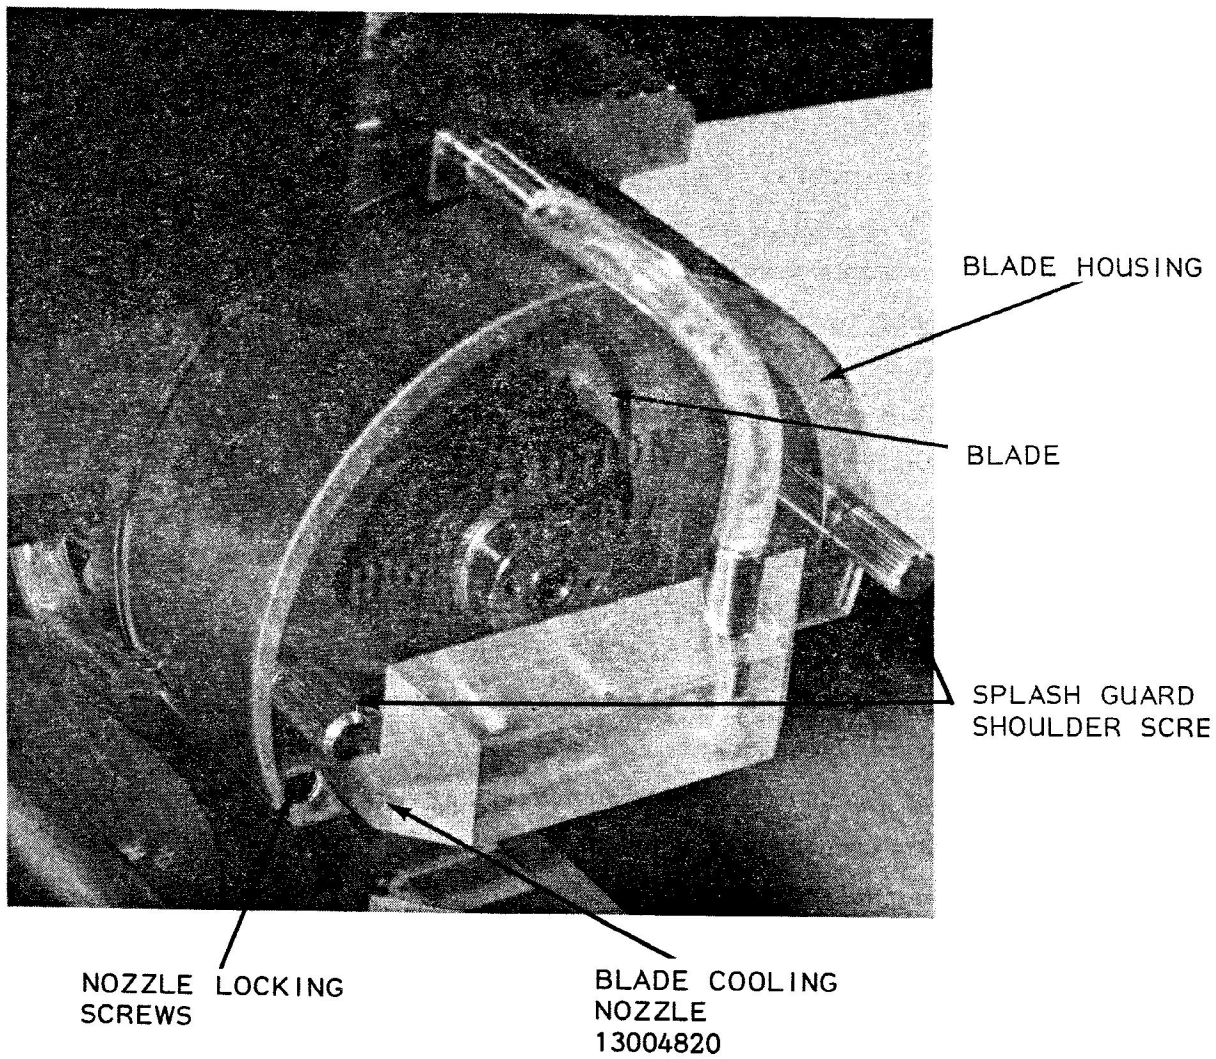

FIGURE 2-1
A. Front Housing Position Alignment (Ref. Fig. 2-1, 2-2 and 2-3)